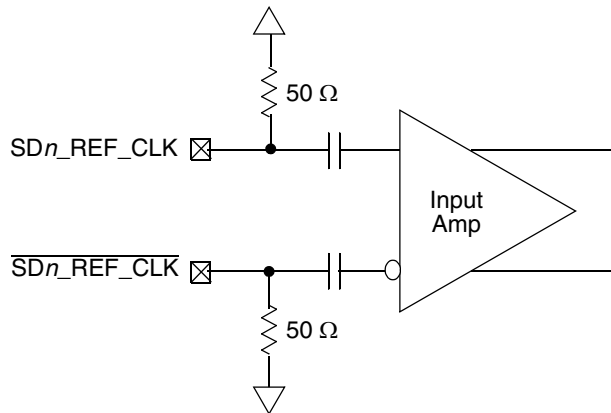

Figure 44. Receiver of SerDes Reference Clocks
Figure 44 shows a receiver reference diagram of the SerDes reference clocks. Characteristics are as follows:
- The SDn_REF_CLK and $\overline{SDn_REF_CLK}$ are internally AC-coupled differential inputs as shown in Figure 44. Each differential clock input (SDn_REF_CLK or $\overline{SDn_REF_CLK}$) has on-chip 50- Ω termination to $SGND_SRDSn$ (xcorevss) followed by on-chip AC-coupling.